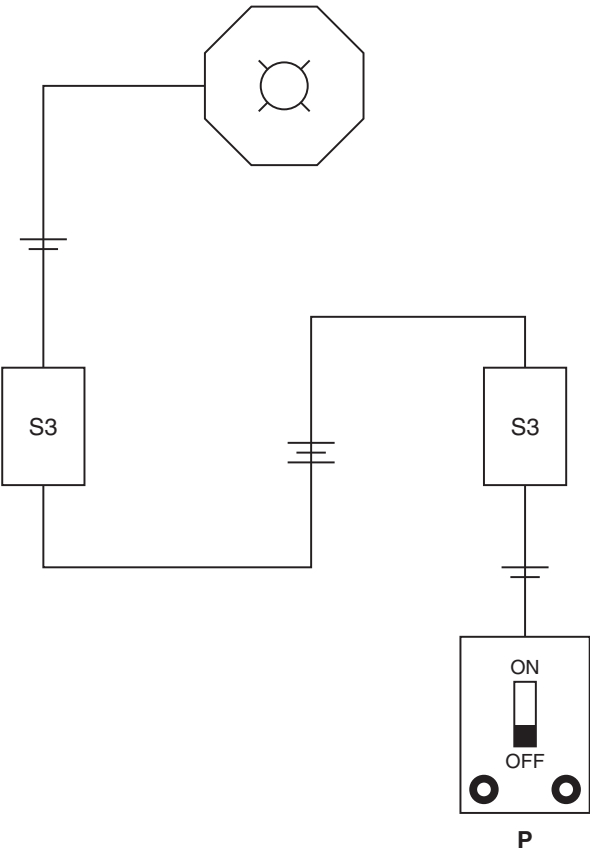

Figure 8-24 First circuit for connection.
3. Connect two- and three-conductor cables between the power supply and the boxes as shown in Figure 8-24. (Note: Blueprints generally indicate electrical cables as lines